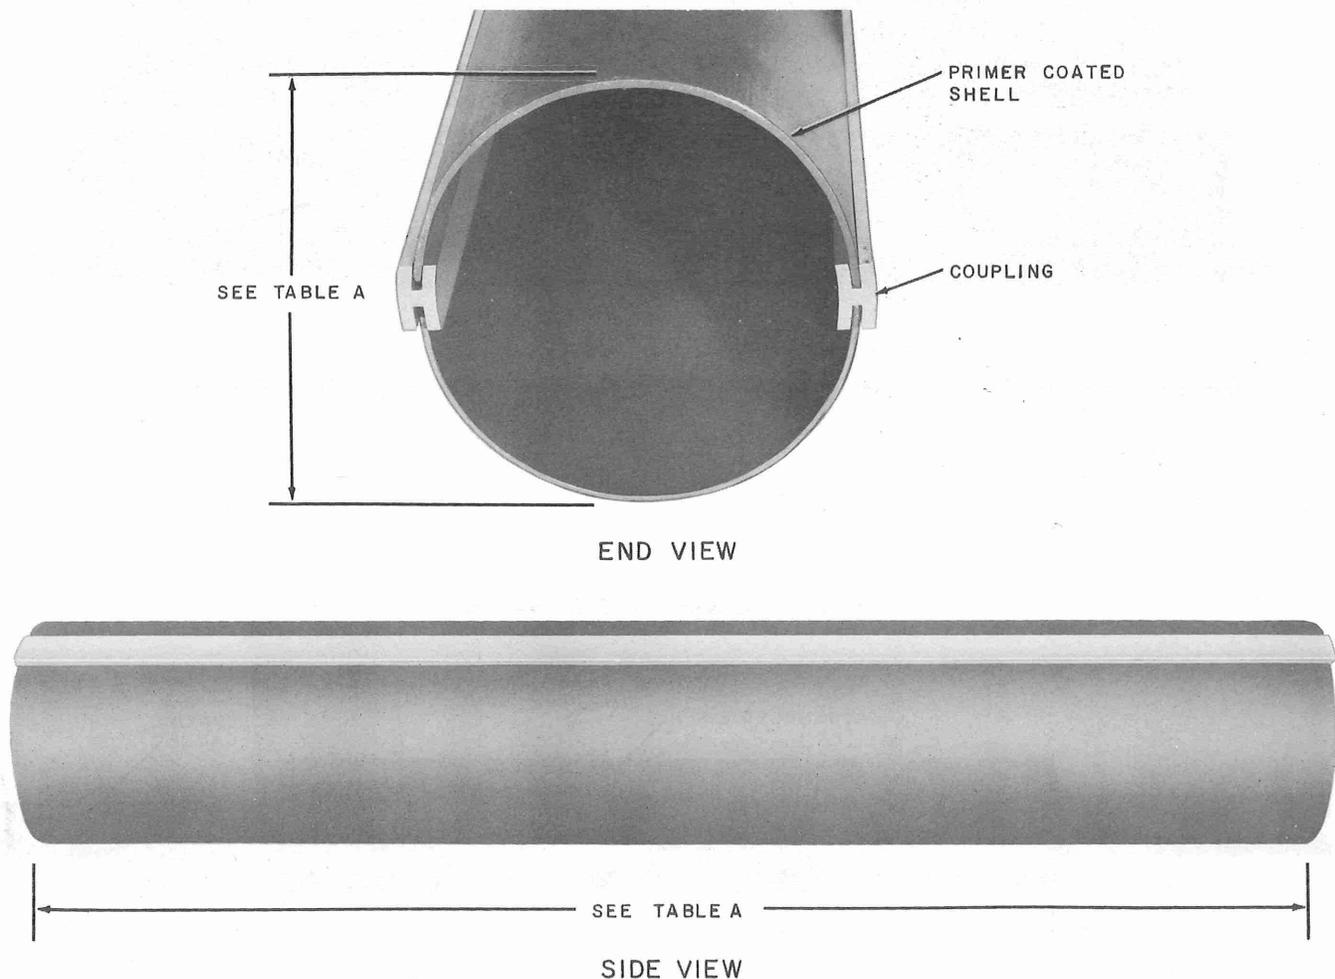

Fig. 1 — C Sleeve Liner
2.01 The C Sleeve Liner (Fig. 1) consists of two primer coated shells made of half-sections of steel tubing and two H-shaped aluminum couplings for holding the shells together to form a tube.